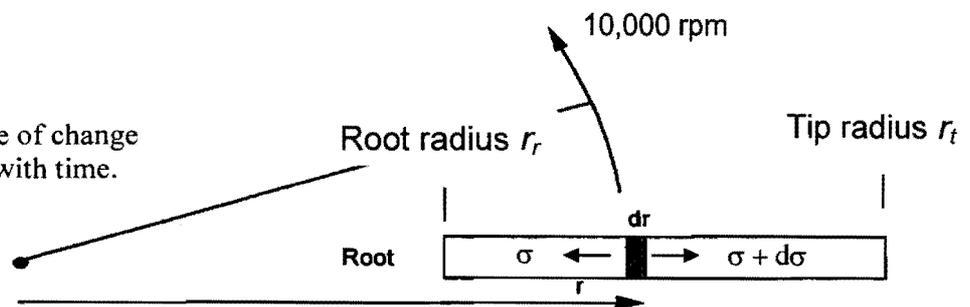

Figure 5
- * 9. A turbine blade of a nickel-based alloy ($\rho = 8900 \text{ kg.m}^{-3}$) works at a temperature of 600°C. The root and tip radii r_r and r_t of the blade are 0.2 and 0.25 m respectively from the centre of rotation and the blade rotates at 10,000 rpm as illustrated in Figure 5.